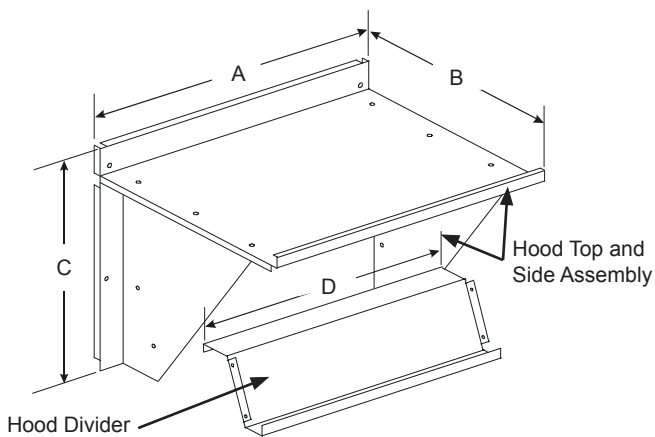
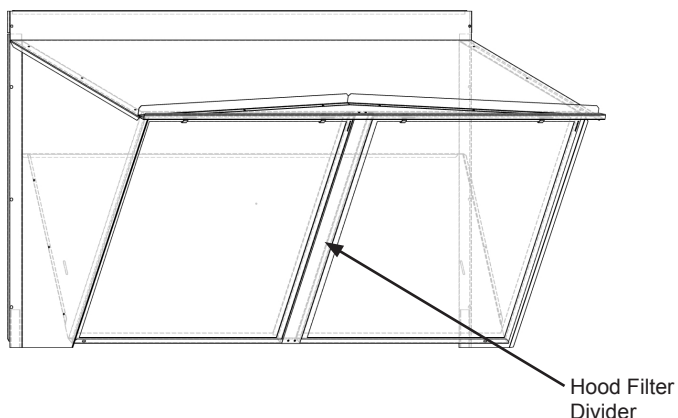

Fig. 3 - Hood Assembly
Fig. 4 - Hood for Extra Large Cabinet
5. Insert the hood divider between the hood sides. (See Fig. 3) Secure hood divider with 2 screws (provided) on each hood side. Screws should go through the hood sides into the divider. The hood divider is also used as the bottom filter rack for the aluminum filter. On hood for extra large cabinet install filter divider. (See Fig. 4.)